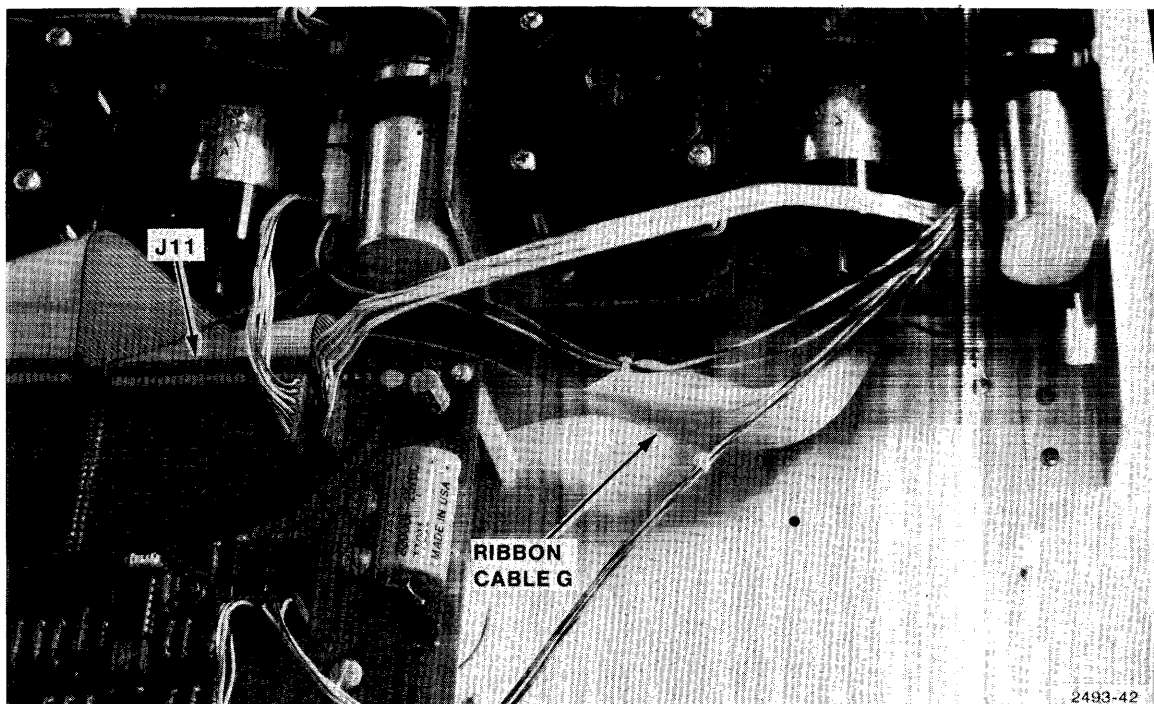

Figure 7-16. Installing ribbon cable G.
- z. Install ribbon cable G (Figure 7-16).